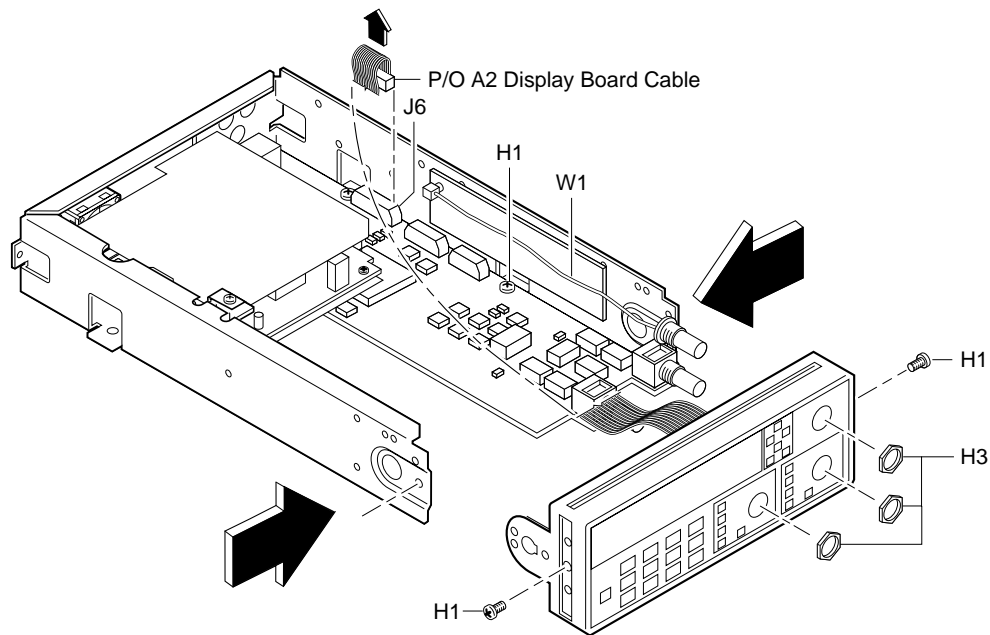

Figure 3-5. Front Bezel Removal
4 Disconnect the front bezel flat-ribbon cable (which is actually A2 Display Board’s cable) from J6 of A1 Motherboard Assembly as shown in Figure 3-5.
- 5 Remove the BNC nuts (H3), shown in Figure 3-5, from the front panel using the 14-mm deep-socket spin tight.
- 6 For Counters with the optional 1.5 GHz or 3.0 GHz channel (Option 015 or 030), pull cable W1 out of the front bezel as shown in Figure 3-5. For the optional 5.0 or 12.4 GHz channel, remove knurled nut.
- 7 Remove the two screws (H1), located in the sides of the front bezel, using the TORX 15 screwdriver as shown in Figure 3-5.**
- 8 Loosen the screw (H1), shown in Figure 3-5, that helps secure A1 Motherboard Assembly to the chassis to make step 9 (the following step) easier.**